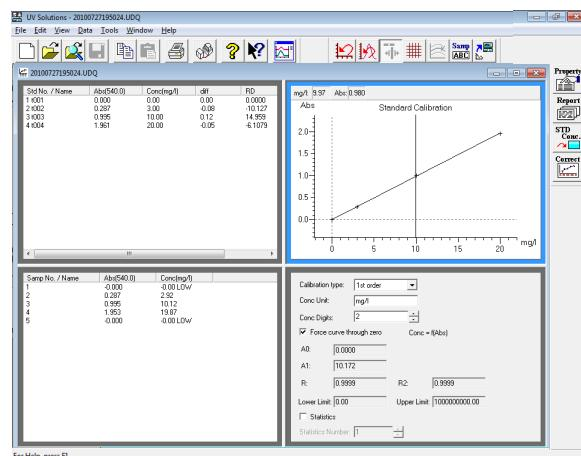

Fig. 5-62
- (1) Open a data file (UV Photometry Files (\*.udq)) (refer to 5.1). A window as shown in Fig. 5-62 will open.